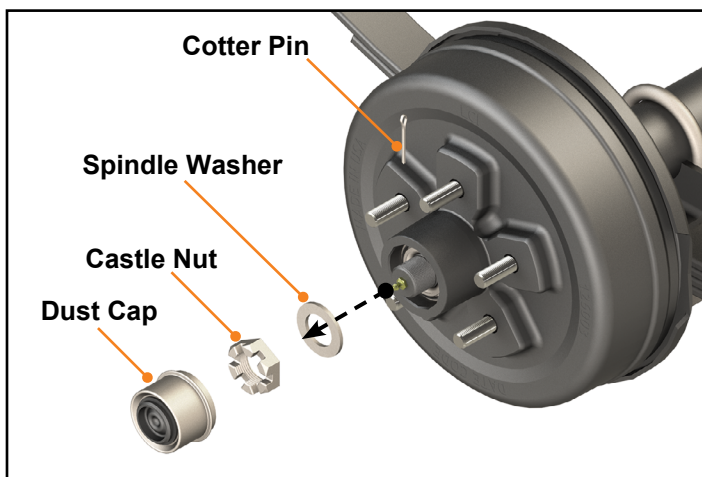

Fig.2
9. Remove the castle nut (**Fig.2**).
A. Remove spindle washer (**Fig.2**).